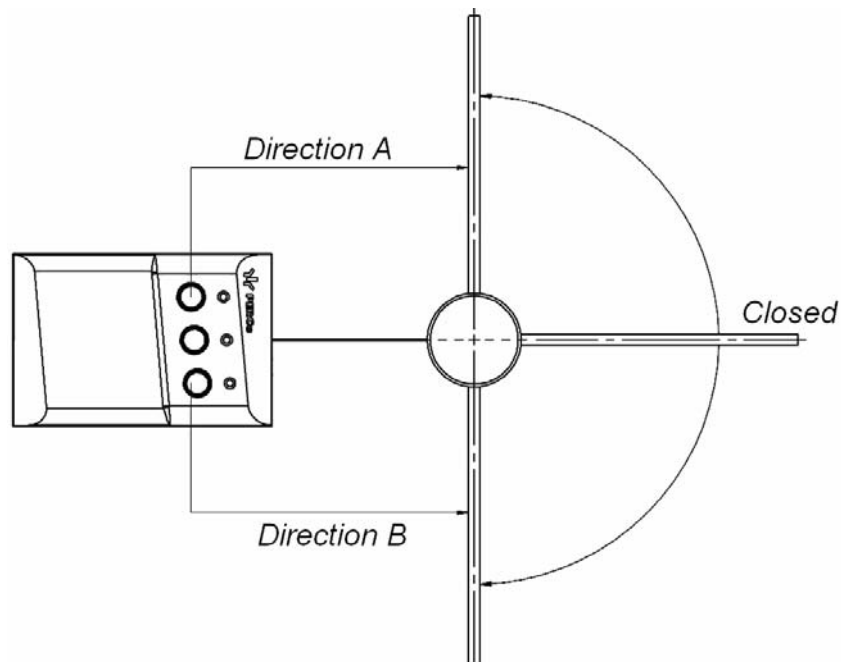

Figure 5. Standard orientation of RC panel in relation to gate opening direction
- **FireAlarmDir** – connector is designed for selection of opening direction of the gate when the *Fire Alarm* emergency unblocking signal is applied. If the jumper is installed, the swing panel opens in direction A (see Figure 5), if the jumper is not installed, the swing panel opens in direction B. The jumper is installed on default.
The standard orientation of the RC panel in relation to gate opening direction is shown in Figure 5. The orientation of the RC panel can be changed if necessary, in such case the connection of RC panel shown in Fig. 11 shall be changed by connecting of cable of the RC panel to **XT2** connector block in accordance with Table 2.